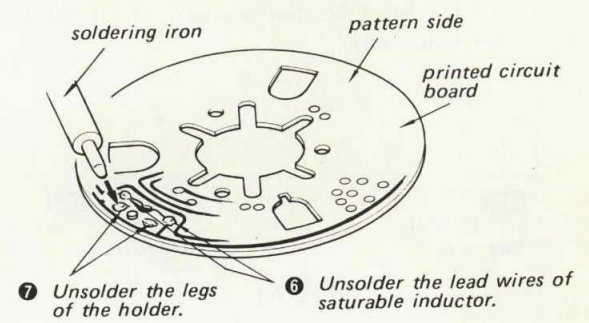

Fig. 3-7.
- Remove the saturable inductor and the holder as shown in Fig. 3-7.